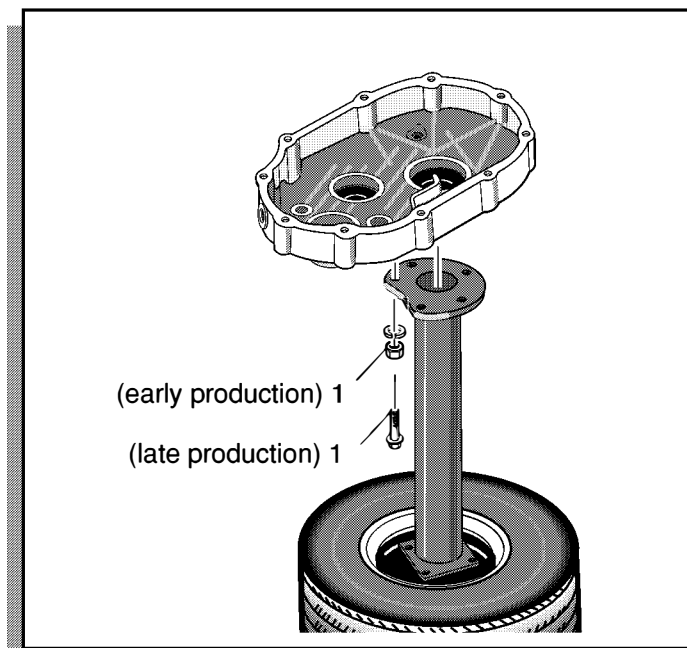

Fig. A-8 Differential Case Removal
7. Using a 17mm socket, remove five nuts (1) with washers and detach the driver side casing half from the driver side axle tube (Ref Fig. A-8 on page A-4).